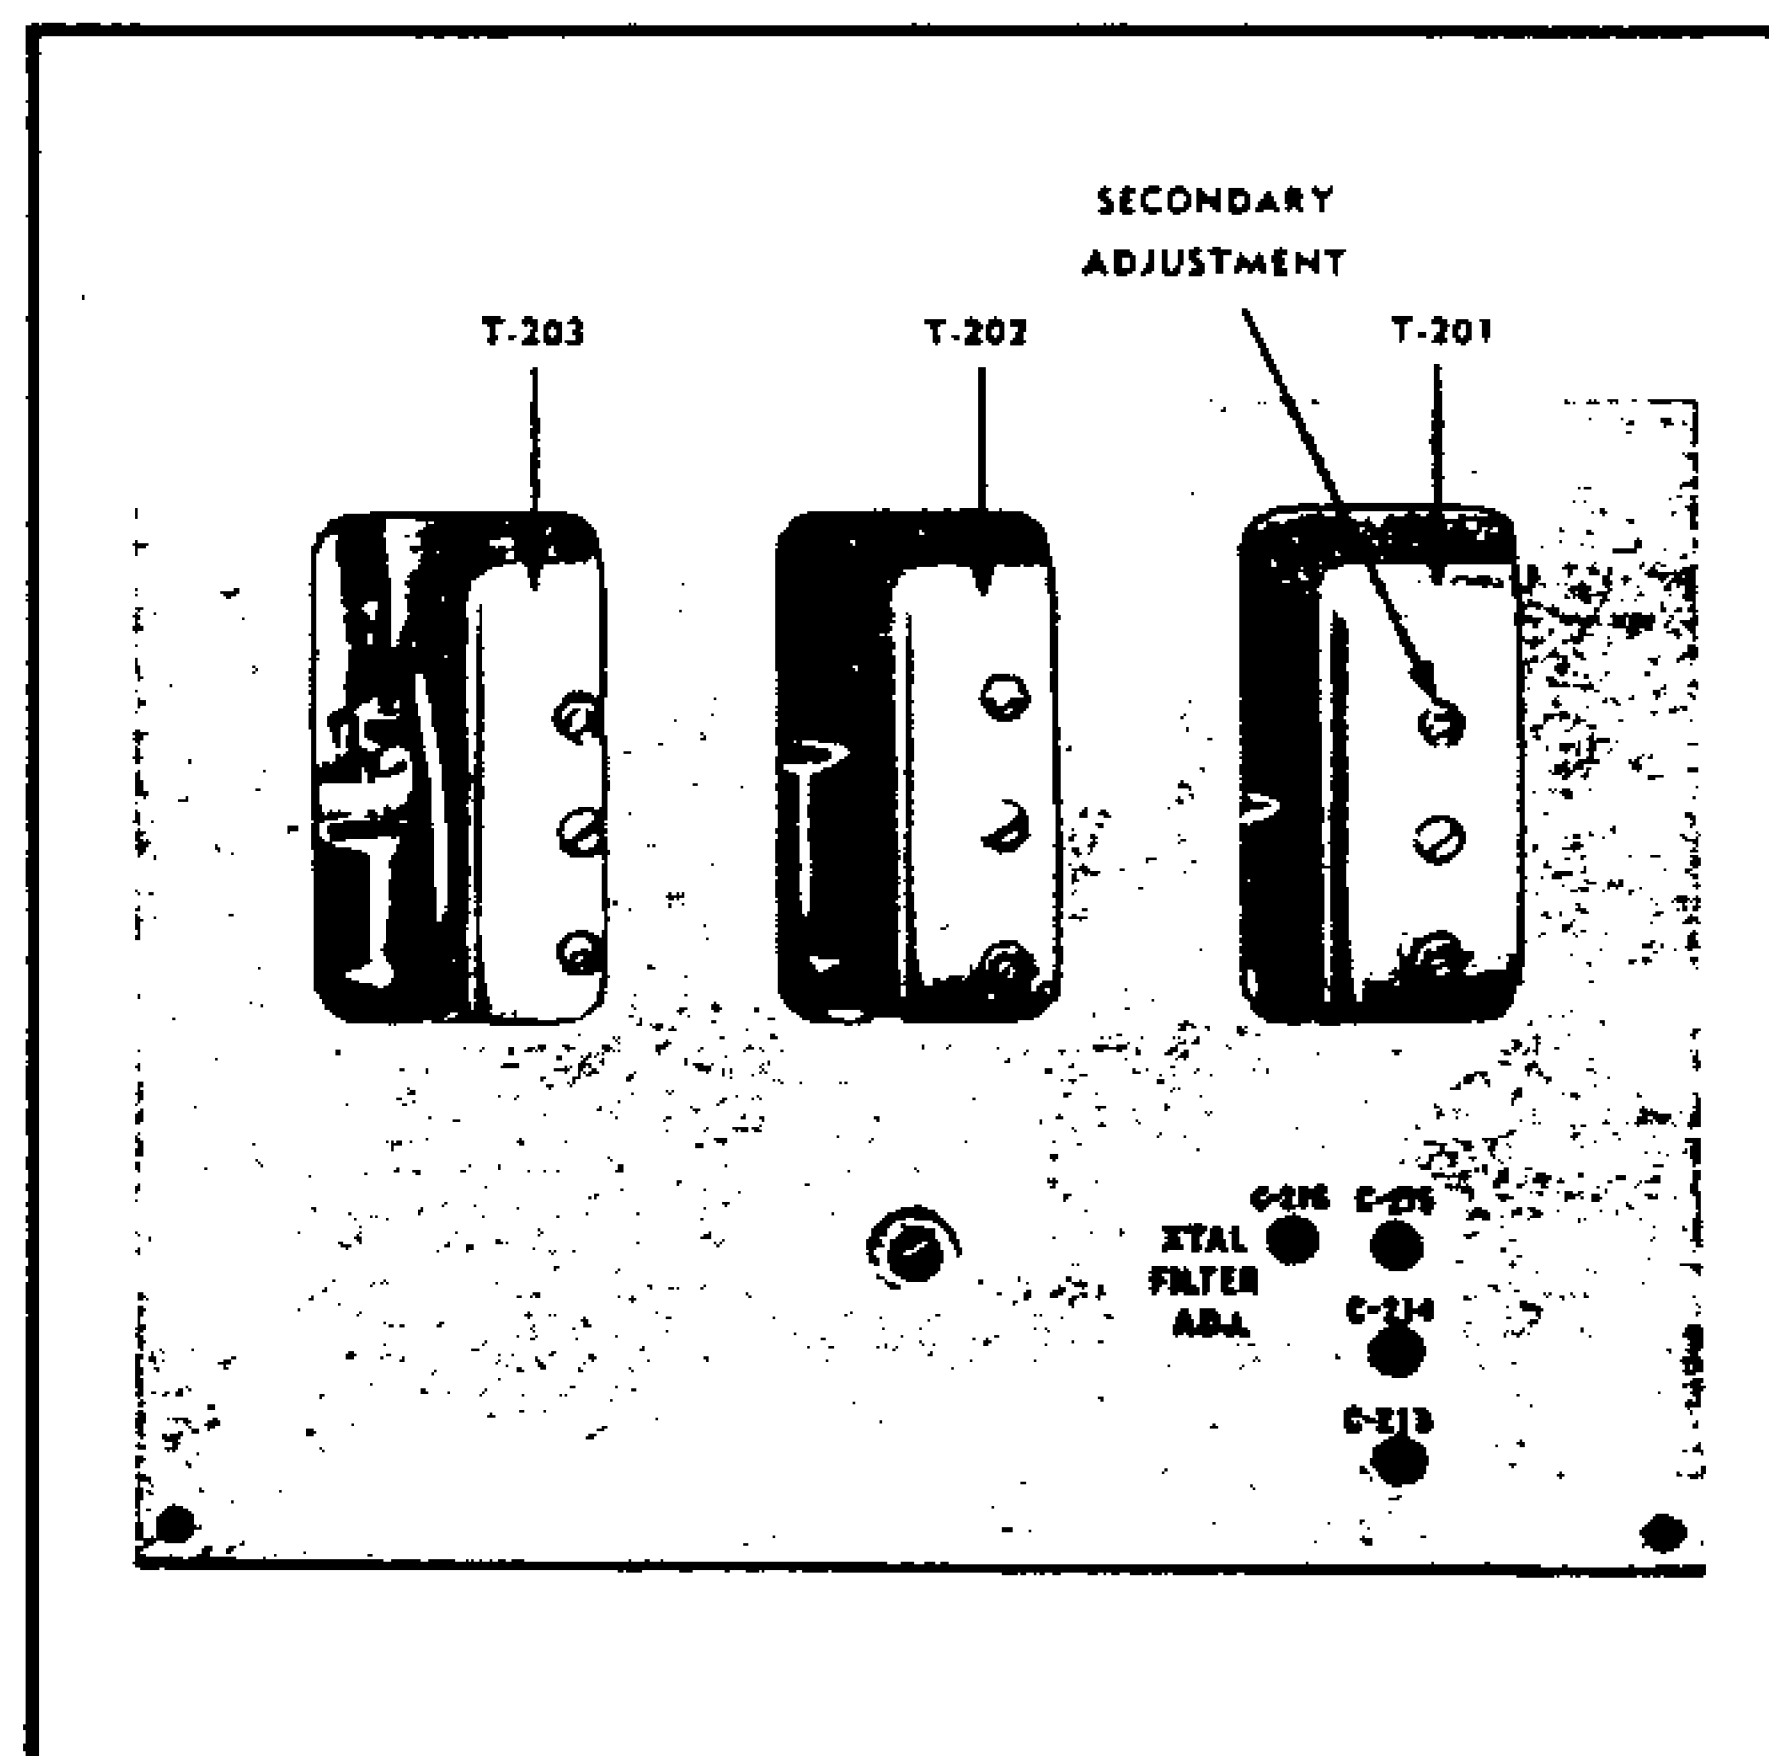

Figure 5-5. Radio Receiver R-595/ARR-7AX Rear View, Showing Adjustments for I-F Alignment
**5-32. I-F ALIGNMENT. (See figure 5-5.)**
**5-33. CRYSTAL ADJUSTMENT. (See figure 5-5.)**